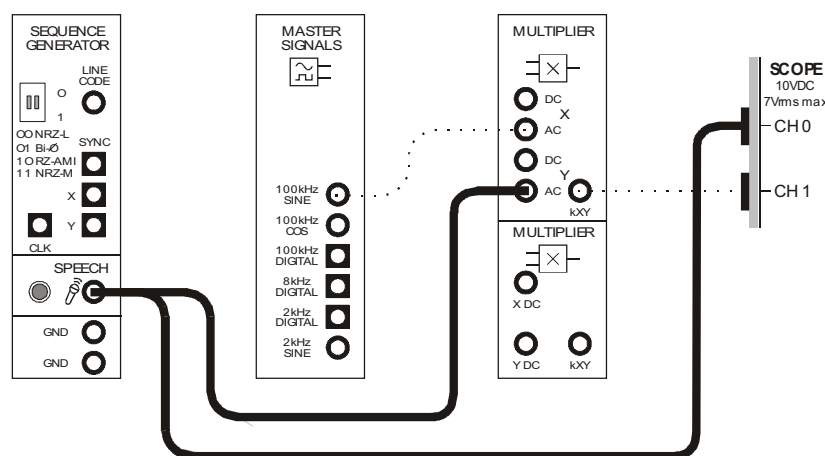

Figure 6
19. Connect them to the Speech module's output as shown in Figure 6 below.